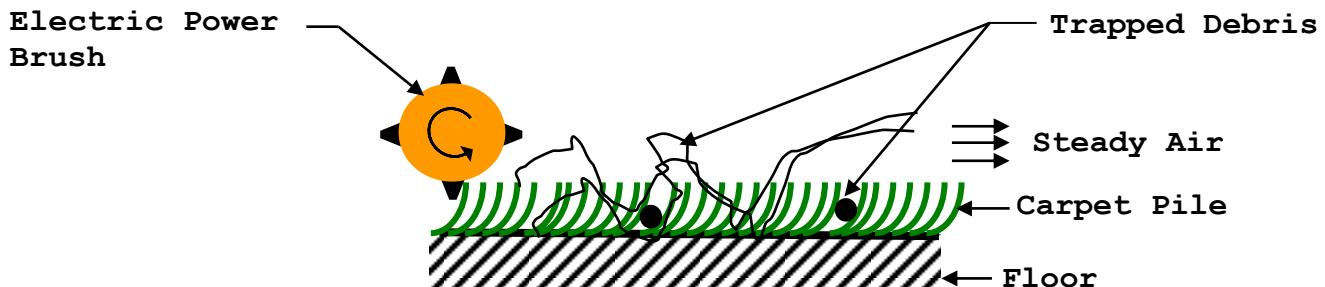

Figure 4. Conflict Zone Domain
Step 4: Draw the conflict zone domain (See Figure 4).